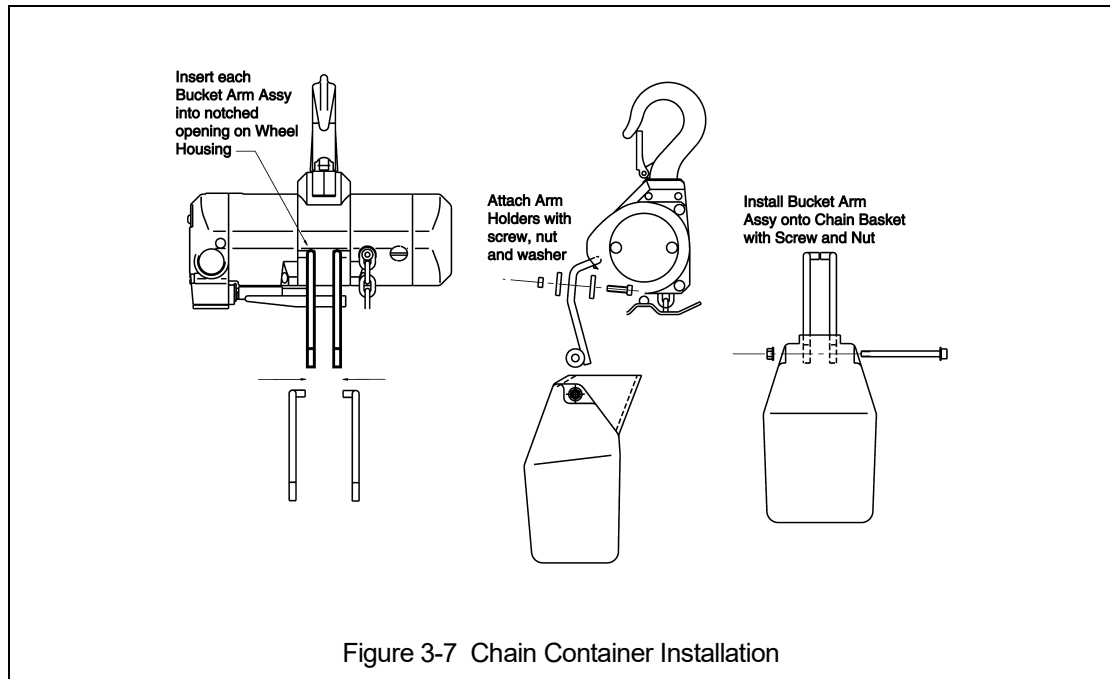

Figure 3-7 Chain Container Installation
- 3.10.1 Follow instructions below to install the optional chain container. Refer to Figure 3-7.